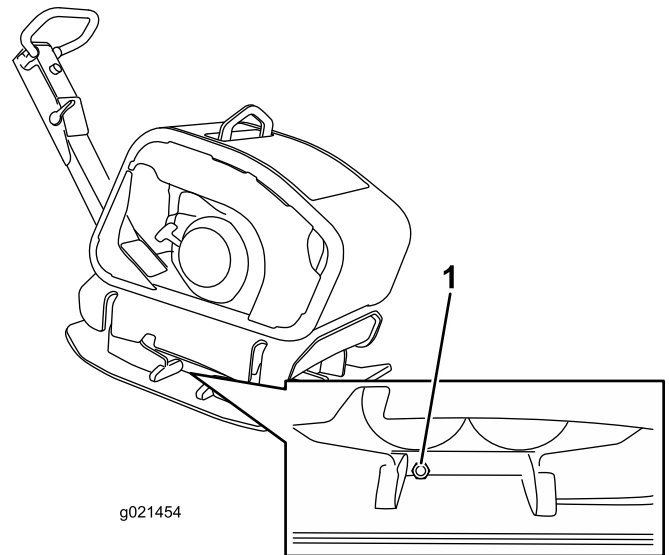

Figure 23
3. Place rags below the oil plug at the right side of the eccentric housing (Figure 23).
4. Remove the oil plug (Figure 23).
7. Replace the oil plug (Figure 23).
4. Place an oil drain pan under the oil plug and remove the plug from the eccentric housing (Figure 23).
5. Tip the plate compactor slightly to the right, and use a suction gun to remove the oil through the oil plug hole (Figure 23).
6. Tip the plate compactor slightly to the left, and slowly pour 0.5 liter (6.9 oz) of the specified oil into the oil plug hole (Figure 23).